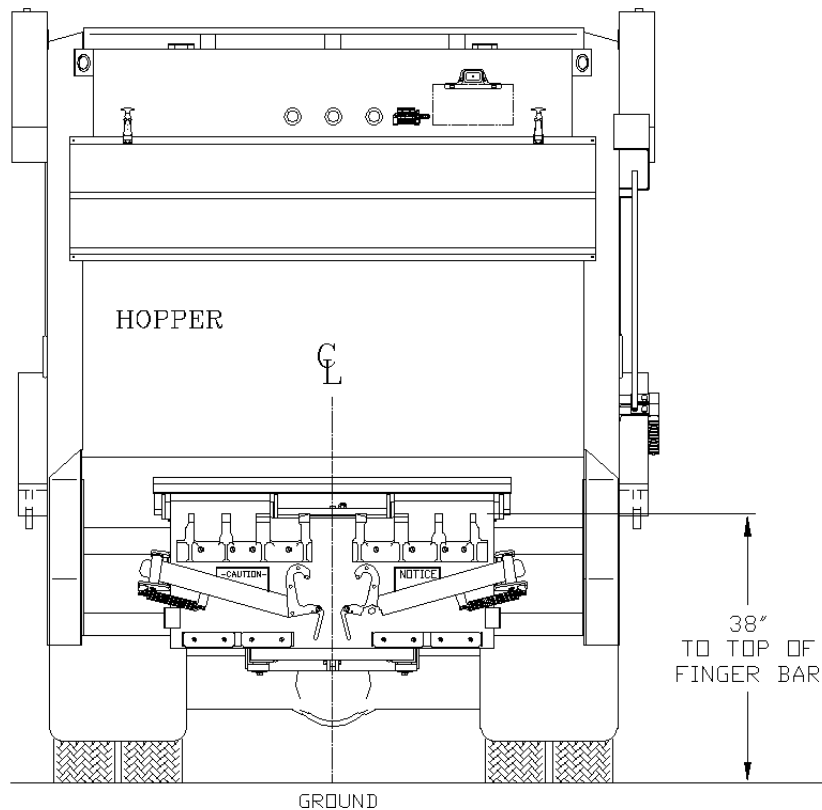

figure I-1
3. Position the lifter on the sill of the truck per figure I-1 and mounting height drawing ( *Appendix A* ) and tack weld the mounting plates in place ( *later in the installation procedure the final weld will be applied* ).